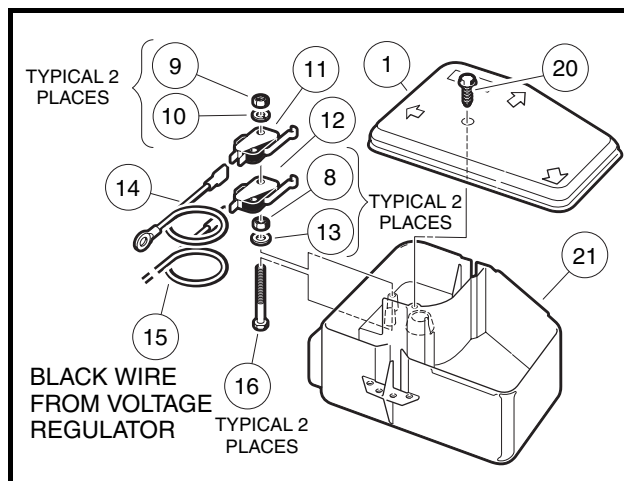

Figure 12-17 Accelerator Pedal and Kill Limit Switches
2. Remove electrical component box cover (1) (**Figure 12-17, Page 12-16**).
3. Disconnect the green wire and the orange wire from the accelerator pedal limit switch (11) (**Figure 12-17, Page 12-16**).
1. Install the accelerator pedal limit switch (11) onto the two screws (16) and secure the switch using two washers (10) and nuts (9). Torque to 5 in-lb (0.6 N·m) (**Figure 12-17, Page 12-16**).
2. Connect the green wire to common (COM) terminal and the orange wire to the normally closed (NC) terminal of the accelerator pedal limit switch (**Figure 12-17, Page 12-16**).
3. Remove the two nuts (9) and washers (10) securing the accelerator pedal limit switch (11). Do not disconnect the wires attached to switch (**Figure 12-17, Page 12-16**).
4. Disconnect the two white/black wires and the black wire from the kill limit switch (12).
5. Remove the kill limit switch (12).
1. Install the kill limit switch (12) onto the two screws (16) (**Figure 12-17, Page 12-16**).
2. Connect the two white/black wires to the common (COM) terminal and the black wire to the normally open (NO) terminal of the kill limit switch (12).
3. Install the accelerator pedal limit switch (11) onto the screws (16). Secure the switch with washers (10) and nuts (9). Tighten to 5 in-lb (0.6 N·m).